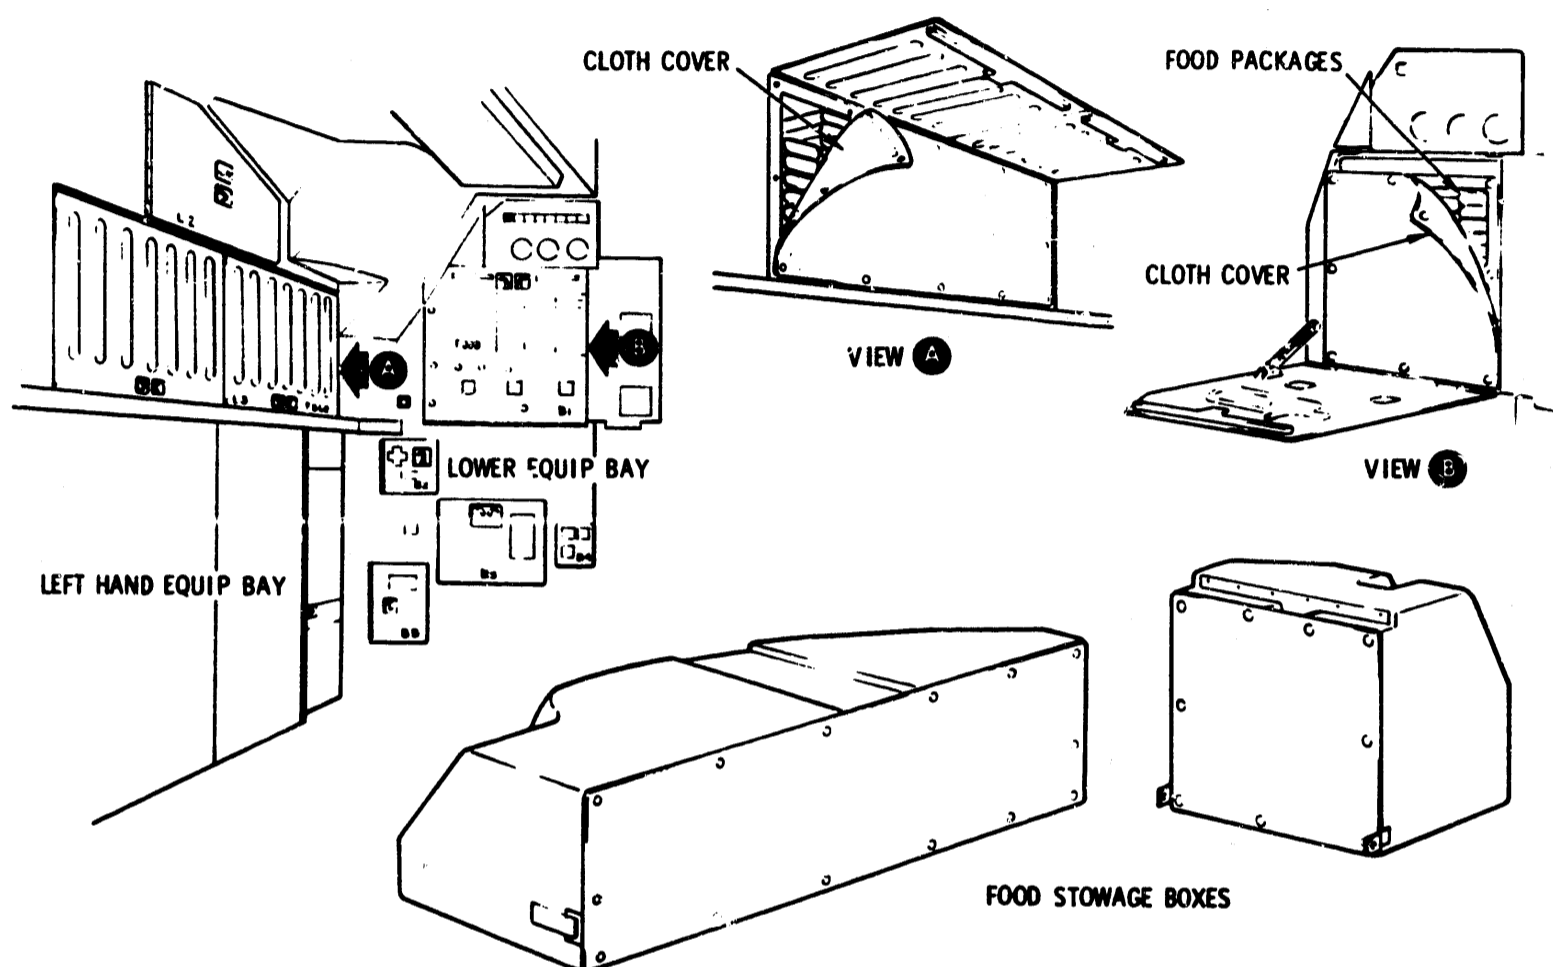

Figure 2.12-40. Food Stowage
2.12.6.2.2 Stowage (Figure 2.12-40).